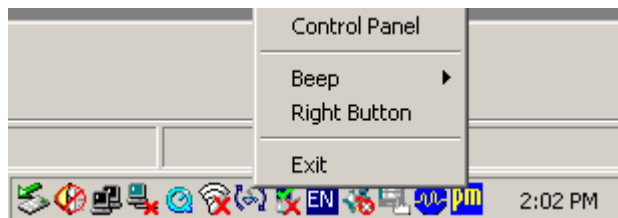

Figure 8-18: PenMount Monitor Popup Menu
Step 3: Click the icon. A pop up menu appears. See **Figure 8-18**.
Step 4: Click Control Panel in the pop up menu shown in **Figure 8-18**.